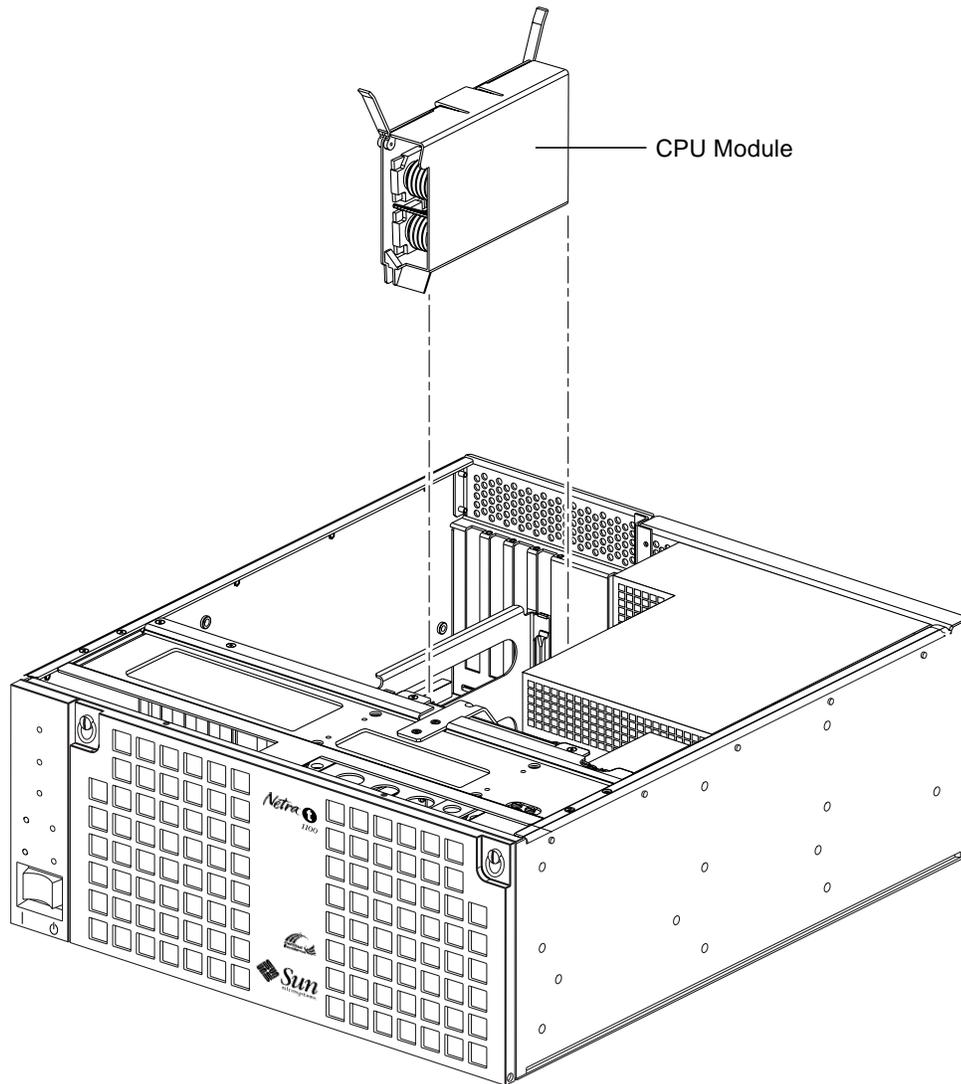

FIGURE 10-2 Removing and Replacing the CPU Module
- 4. Lower the CPU module along the vertical plastic guides until the module touches the motherboard slot socket. Ensure connectors are aligned. See (FIGURE 10-2 on page 71). With both hands, simultaneously turn and press the levers downward to the fully horizontal position.**